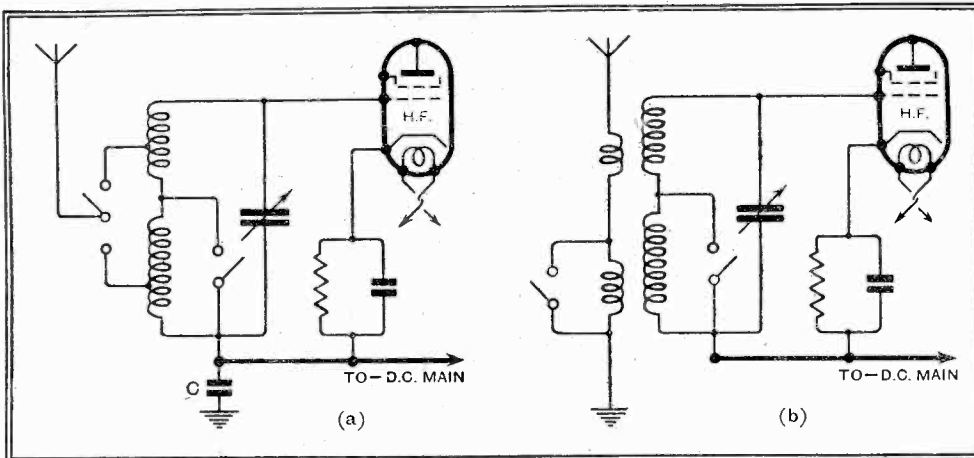

Fig. 1.—The conventional input circuit of a D.C. mains set, and an alternative arrangement which provides isolation between mains and earth.
Most D.C. receivers are connected to earth in the manner shown in Fig. 1 (a), with a large condenser (C) interposed in the earth lead. Sometimes a reduction in the value of this condenser to some 0.002 mfd. will reduce hum without noticeably affecting sen-
A still better plan to adopt in the circumstances would be that shown diagrammatically in Fig. 1 (b). Here the aerial circuit is completely isolated metallically from the